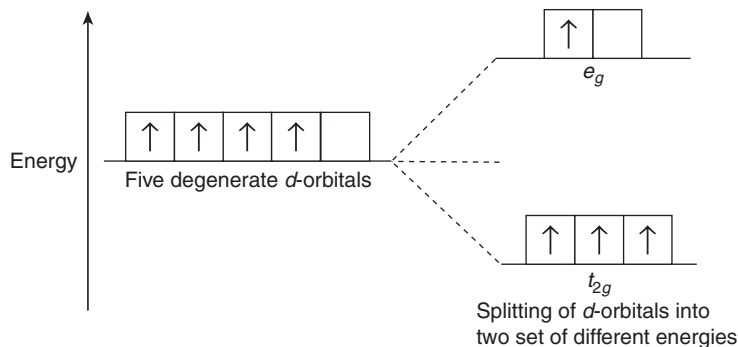

Figure 7 Arrangement of four electrons in  $t_{2g}$  and  $e_g$  orbitals of the central metal ion in an octahedral complex.
**Case II:** Three electrons may be accommodated in  $t_{2g}$  orbitals and one electron goes to one of the  $e_g$  orbitals. In such a case,  $d$ -orbital configuration is written as:  $t_{2g}^3 e_g^1$ . It is shown in Figure 7.